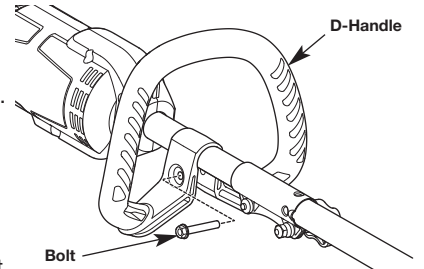

Fig. 2
1. Push the D-handle down onto the boom (Fig. 2), so that the bolt hole in the D-handle is to the right.
3. Tighten the bolt until the D-handle is secure. (Fig. 2)